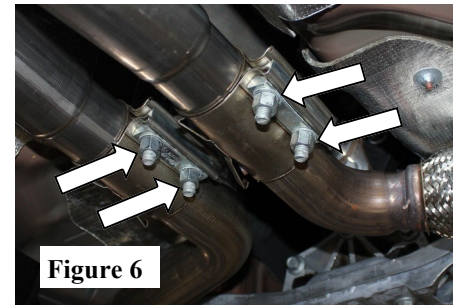

Figure 6
2. Install the Left-side and Right-side factory band clamps onto the X-pipe. (See Fig. 6) **DO NOT TIGHTEN THE CLAMP BOLTS.**